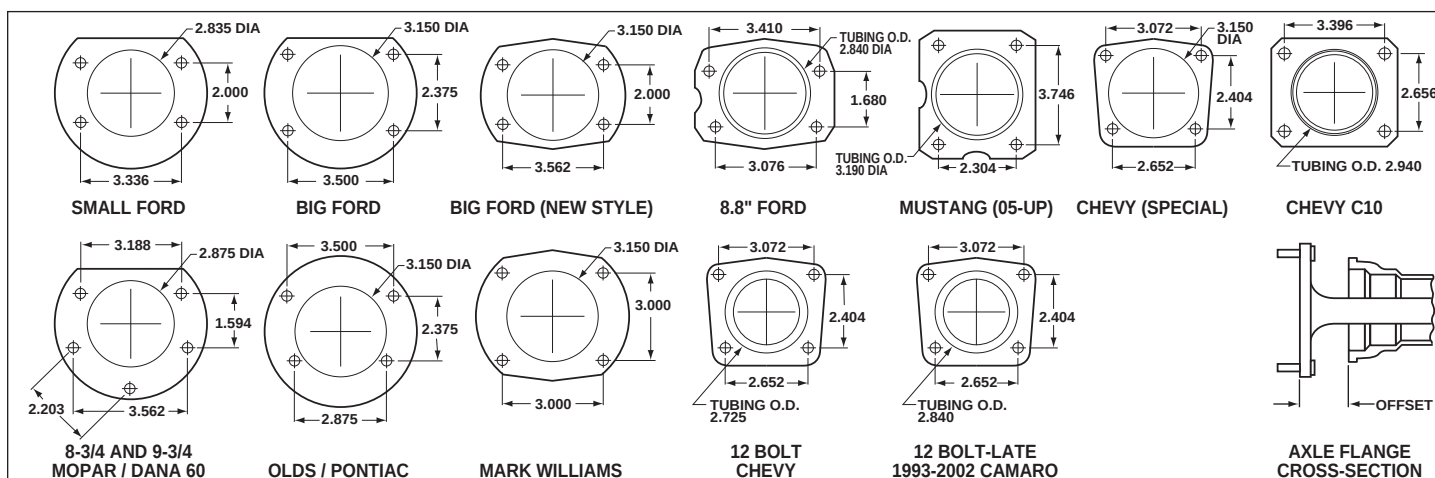

Figure 5. Rear Housing Flange Chart and Axle Flange / Offset Cross-Section
- Make sure this is the correct kit to fit the axle housing flange, not necessarily the rear end make. Many times after market manufacturers put a different make of axle housing flange on the stock rear end housing (see Figure 5, next page). Example; Big Ford rear ends with Olds-Pontiac flanges, therefore, an Olds-Pontiac rear disc brake kit would be the correct kit to order.
- Dimension from wheel side of axle flange to wheel side of axle housing flange (see Figure 5, lower right hand corner). This dimension is critical to ensure proper alignment of the rotor to the caliper, and should match offset given in the kit description.
- With the slot pointing upward and the mounting ears pointing towards the rear of the vehicle, install the caliper mounting bracket (1) to the housing flange using the stock Original Equipment Manufacturer (OEM) bolts and nuts. Stock OEM hex nuts that retain the bracket (1) should be on the wheel side of the bracket. Apply red *Loctite*® 271 to the stock OEM bolt threads and torque to OEM specifications. **NOTE:** Some brackets act as the bearing retainers, while others help locate the bearing in the axle housing flange. If the stock bearing plates are still on the axle, the caliper mounting brackets (1) should be located between the axle housing flange and the bearing retainer plate. Make sure the heads of the caliper mounting bracket insert nuts are FACING OUTWARD TOWARDS THE WHEEL.
- Bolt the hat (2) to the rotor (3) using lock washers (4) and bolts (5). Torque bolts (5) to 180 in-lb. Safety wire bolts (5) using standard 0.032 inch diameter stainless steel safety wire as shown in Figure 5. Please refer to Wilwood's data sheet DS-386 (available at www.wilwood.com/pdf/ds386.pdf) for complete safety wire installation instructions.
- Align the correct hole pattern in the hat (2) with the stud pattern on the axle flange. **NOTE:** Some OEM and after market axles come with stud sizes larger than 0.50" diameter. Verify stud size and have a qualified machine shop drill the hats to the correct size. Slide the hat/rotor assembly (2 and 3) over the wheel studs and against the axle flange face.
- NOTE:** Please reference the caution statement at the beginning of the assembly instructions. WITH THE BLEED SCREWS POINTING UP, mount the caliper (6) over the rotor (3) and onto the caliper mounting bracket (1) using lock washers (7) and mounting bolts (8). View the rotor through the top opening of the caliper. The rotor should be aligned in the center of the caliper. If not, adjust the caliper by using 0.032 inch shim washers (9), placing them between the caliper mounting bracket (1) and the caliper (6). Apply red *Loctite*® 271 to the mounting bolt threads (8), torque bolts to 30 ft-lb. Safety wire the caliper mounting bolts (8).
- Position the Wilwood disc brake pads (10) into the caliper (6) and fasten with cotter pin (11). Steel backing plate side of brake pad should face the caliper pistons.